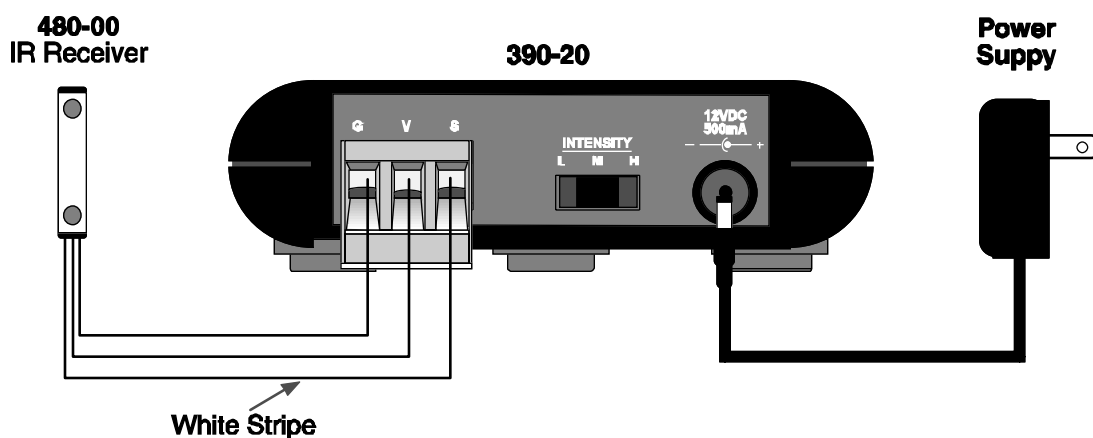

FIGURE 1
## INSTALLATION - EXTERNAL IR RECEIVER (FIGURE 1 BELOW)
- For Xantech IR receivers with colored wires, Red goes to "V" for +12VDC, White goes to "S" for IR IN, and Black goes to "G" for Ground. Shown in Figure 1 below.